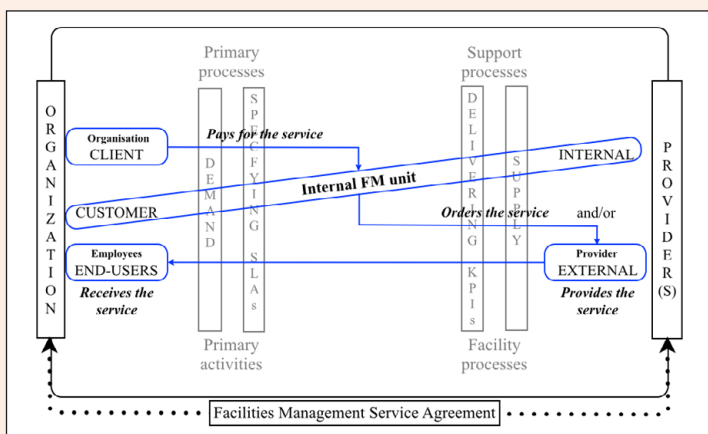

Figure 1. The FM service process. Source: Nardelli, 2015 – Adapted from EN15221-1, 2006.
provision there are (1) the organisation as a whole, which orders and pays for the FM service provision; and (2) its employees, who eventually receive and take advantage of the FM service provision (figure 1).